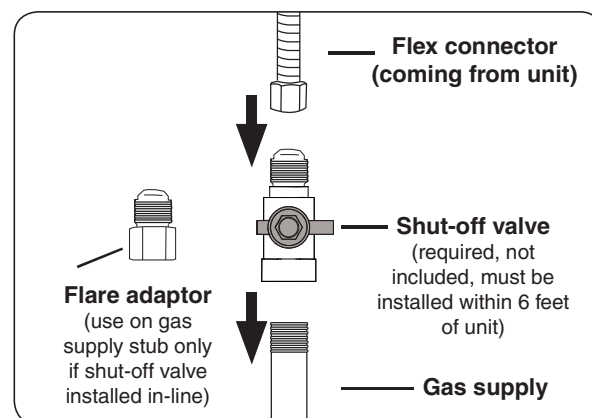

Fig. 15-3 Connecting to a gas line
- Connect the flex connector to the shut-off valve (see Fig. 15-3). Tighten securely.
- Install the supplied flare adaptor to the gas supply using a pipe joint compound resistant to all gasses (see Fig. 15-3). Tighten securely.
- Connect the flex connector to the flare adaptor (see Fig. 15-3). Tighten securely.